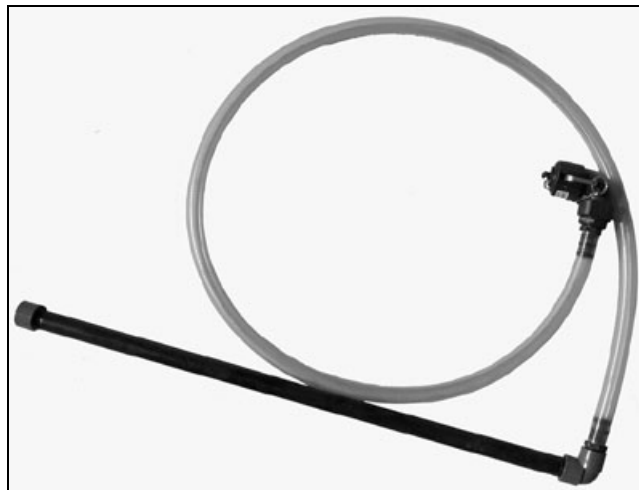

Figure 9 - Barrel Straw
1. Retrieve the barrel straw. See Figure 9.